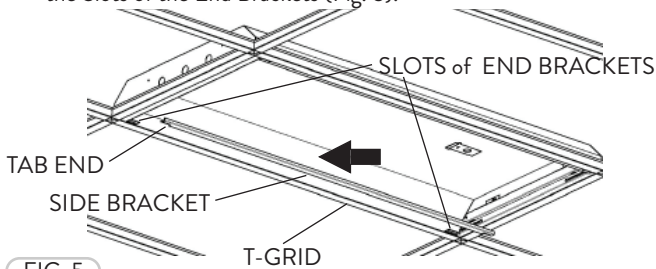

FIG. 5
- 3 If with the gap between the fixture and T-Grid is too large, then the Side Bracket can be installed by inserting each Tab End into each of the Slots of the End Brackets (Fig. 5).